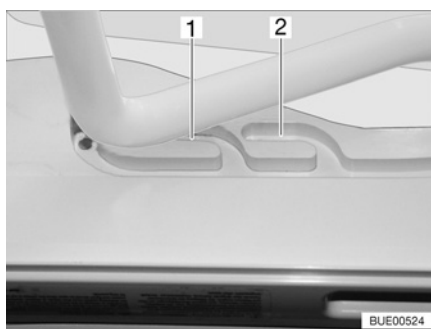
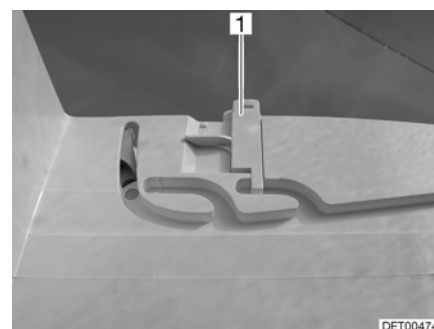

Fig. 38 Heki skylight in ventilation position
Fig. 39 Ventilation position locking mechanism
The Heki skylight can be put in two ventilation positions: Bad weather position (Fig. 38,1) and central position (Fig. 38,2). Depending on the model, the skylight can be locked in the central position with both left and right latches (Fig. 39,1) on the skylight frame.
- Push the bar slightly upwards and into the selected guide (Fig. 38,1 or 2) and lock if necessary.